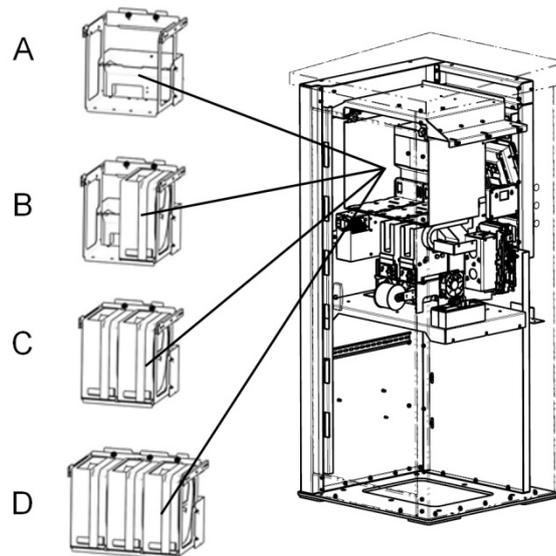

Figure 13
In the free-standing cabinet version, hoppers are located as shown in Figure 13 above. You have the option to install no hopper (A), a single hopper (B), two hoppers (C) or three hoppers (D).